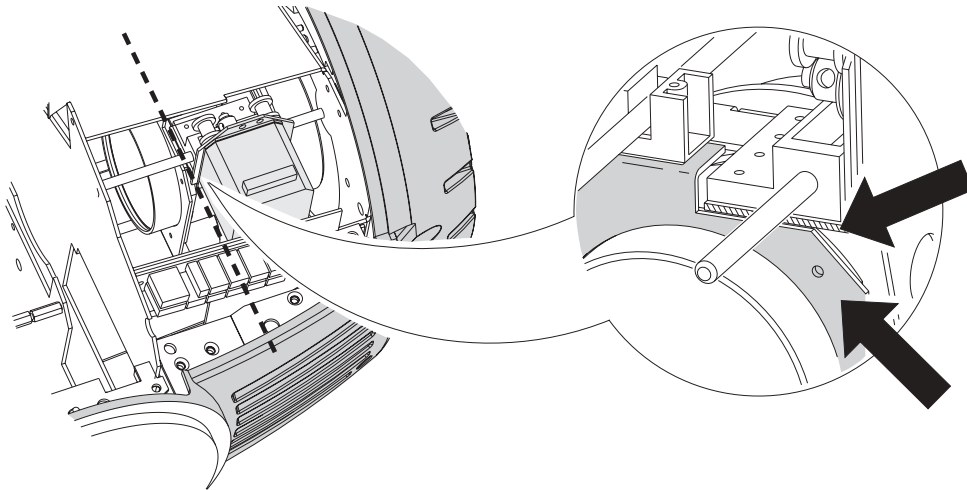

Figure 12: Zoom calibration point
- 2 To calibrate zoom, first remove the bottom head cover. Select UTIL/CAL/ZOOF and press [Enter]. Adjust the offset until the face of the zoom lens plate is flush with the back edge of the focus plate (Figure 12). Press [Enter] to save the setting. Replace the bottom head cover.